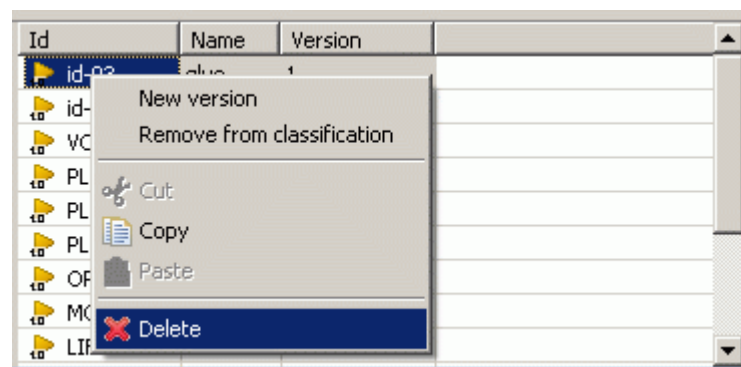

Figure 1. Context sensitive menu, Delete menu item
- The context sensitive menu appears (see Figure 1).